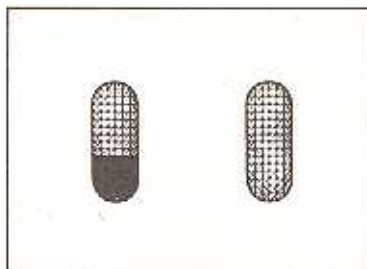

Fig.4
- The color portion (as shown in Fig.4) shows the remaining kerosene.